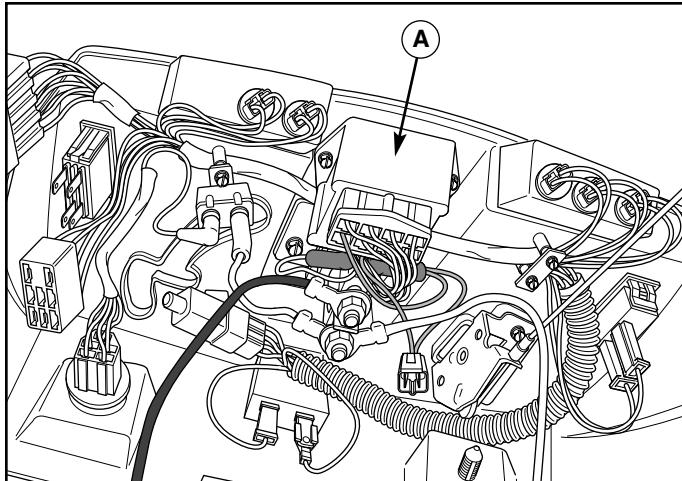

Figure 34. Interlock Module Location
1. Unplug and remove the old module (A, Figure 34).